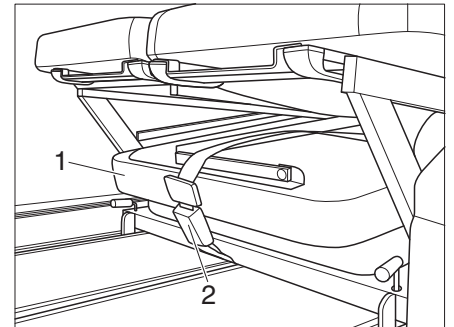

Fig. 8 Stow bed extension
- Stow the bed extension (Fig. 8,1) under the bench seat and secure it with the belt (Fig. 8,2) buckle.